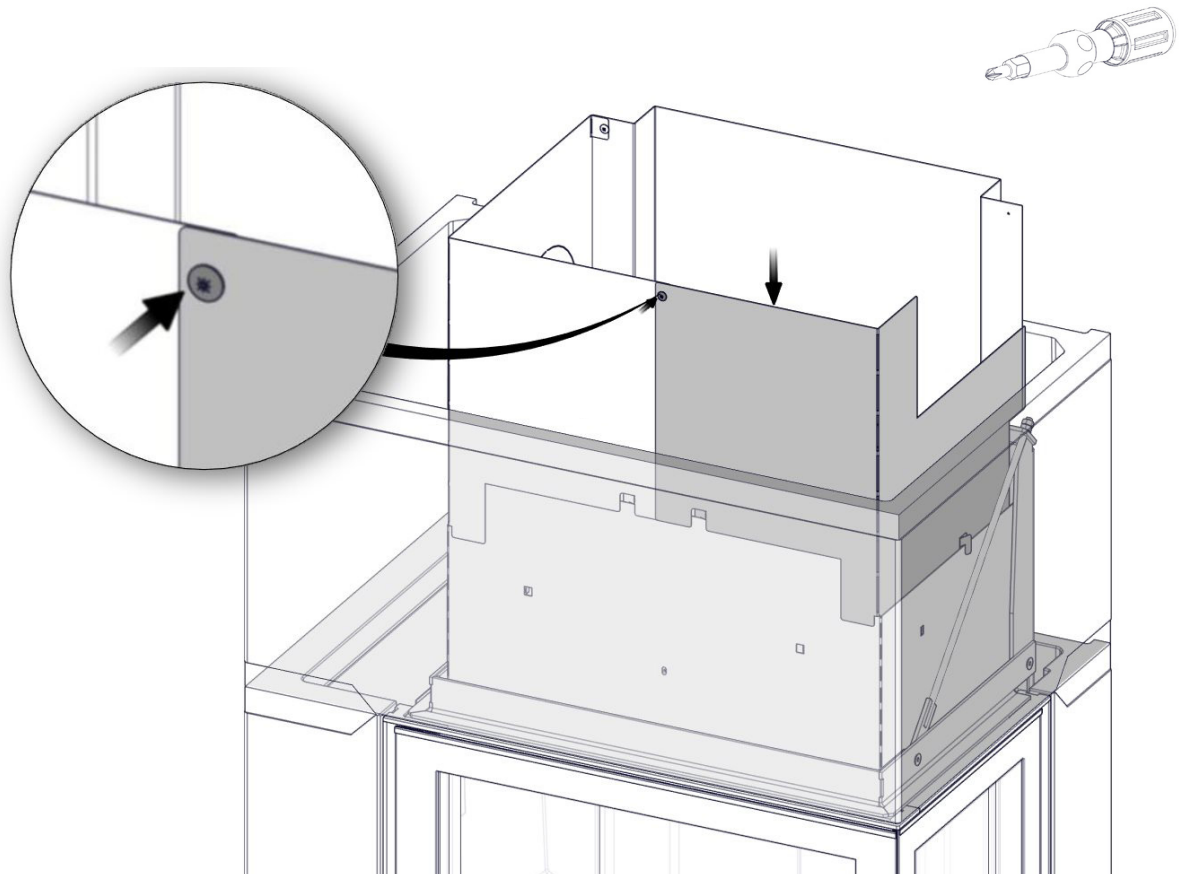

FIG 17
FIG 17 a
**FIG 17 b** Davos A High\_N-29A
**FIG 17 c** Davos A High\_N-29A
FIG 17 d Davos A High\_N-29A